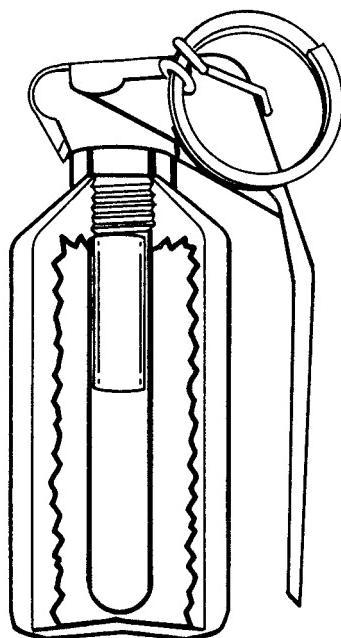

Figure F-12. 35X65 MECAR fragmentation hand grenade.
- Type: Fragmentation, defensive. (Figure F-12)